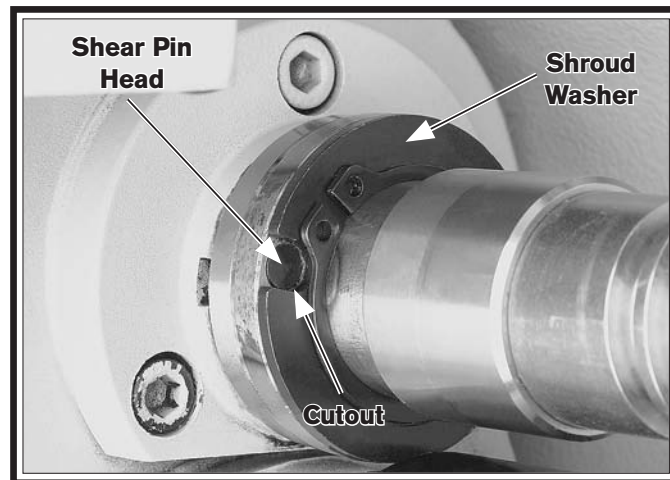

Figure 130. Shroud washer and shear pin alignment.
2. Rotate the shroud washer on the leadscrew shown in **Figure 130**, so that the cutout lines up with the shear pin head.